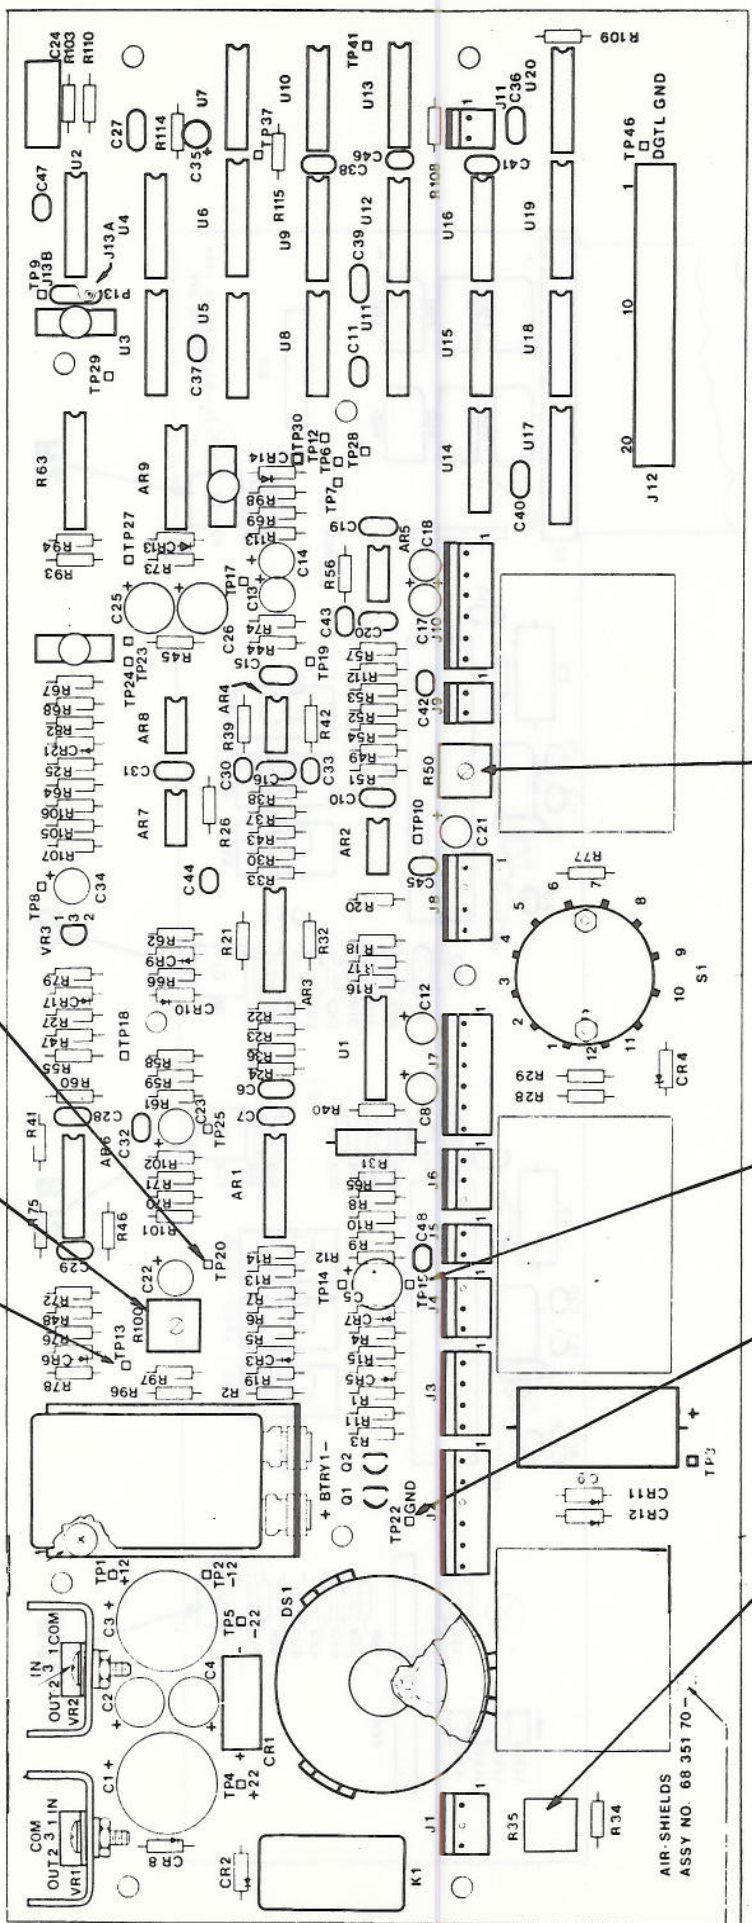

FIGURE 5.1 PCB 2, LOCATION OF TEST POINTS AND ADJUSTMENTS
3. On the Simulator, set the MODE switch to AIR and the TEMP switch to 36°C . Refer to Figure 5.1 for location of test points and adjustments.
1. Refer to Figure 5.1 and connect the DVM between TP20 (+) and TP22 on PCB 2.